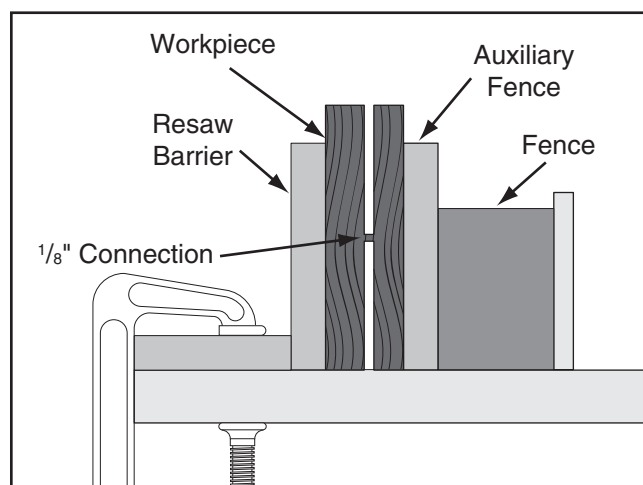

Figure 89. Ideal completed resaw cut.
7. Raise the blade approximately an inch, or close to half the height of the workpiece (**Figure 89**), whichever is less.
10. Repeat **Steps 7–9** until the blade is close to half of the height of the board to be resawn. The ideal completed resaw cut will leave an $\frac{1}{8}$ " connection when the resawing is complete as shown in **Figure 89**. Leaving an $\frac{1}{8}$ " connection will reduce the risk of kickback.